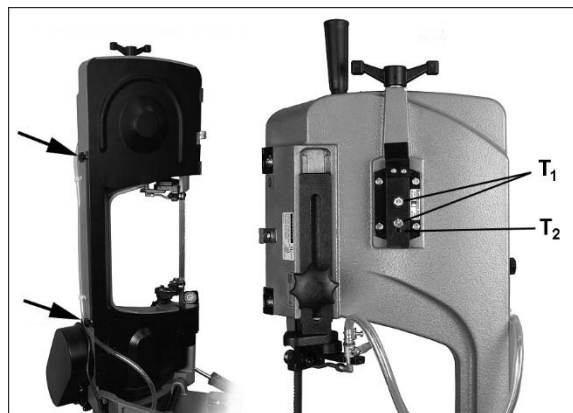

Figure 8-10: blade tracking adjustment
3. Open rear guard by removing two knobs (see Figure 8-10).
2. Open rear guard by removing 2 knobs (see Figure 8-10). Observe position of blade on wheel. If blade is not adjacent to wheel flange, first adjust blade tracking according to sect. 8.9 *Blade tracking*.
6. If blade is not tracking properly, loosen bolts (T_1 , Figure 8-10) with 12mm wrench.